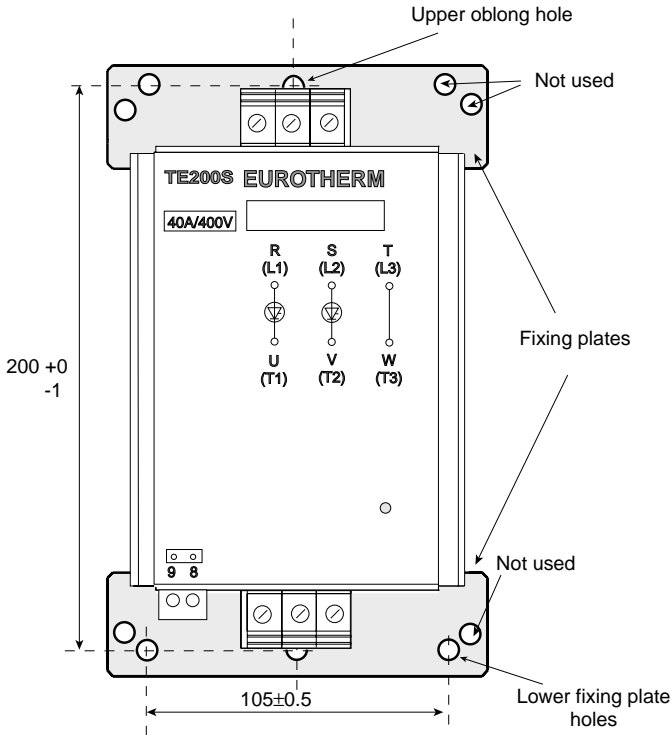

Figure 2-4 Bulkhead drilling and mounting dimensions (in mm) for the TE200S unit
- Drill three holes for M6 screws following the dimensions given in Figure 2-4